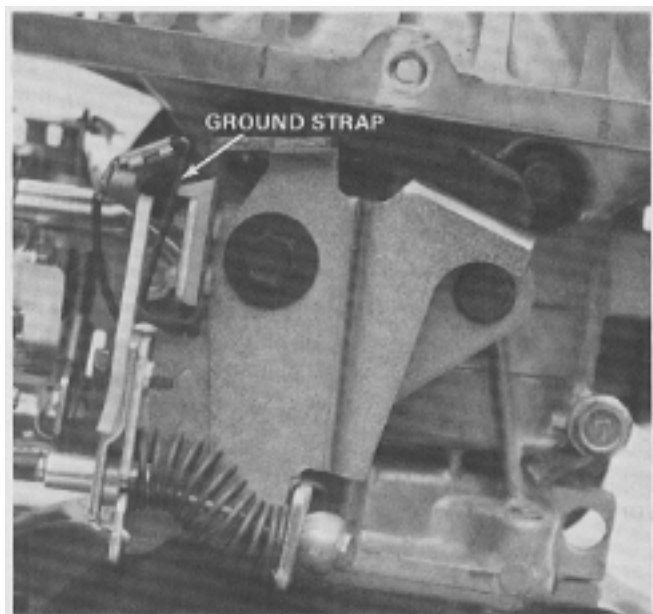

Figure 56
1. If the ground strap has been removed, fasten it to the mounting plate as shown in Figure 56.